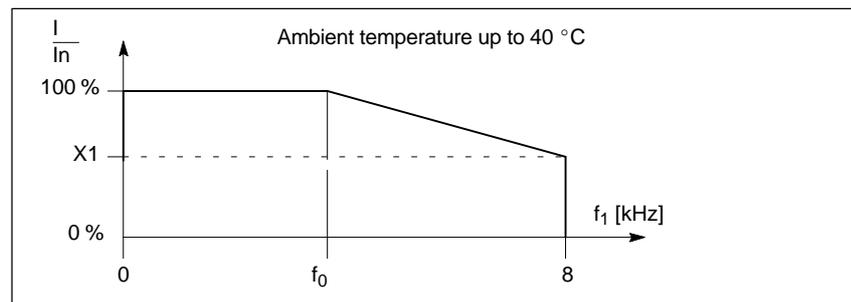

Fig. 4-2 Current de-rating depends on the inverter clock frequency
- 1) X1 = reduction factor of the current, current de-rating from inverter clock frequency f0 of the power transistors (Fig. 4-2)
1) X1 = reduction factor of the current, current de-rating from inverter clock frequency f0 of the power transistors (Fig. 4-2)